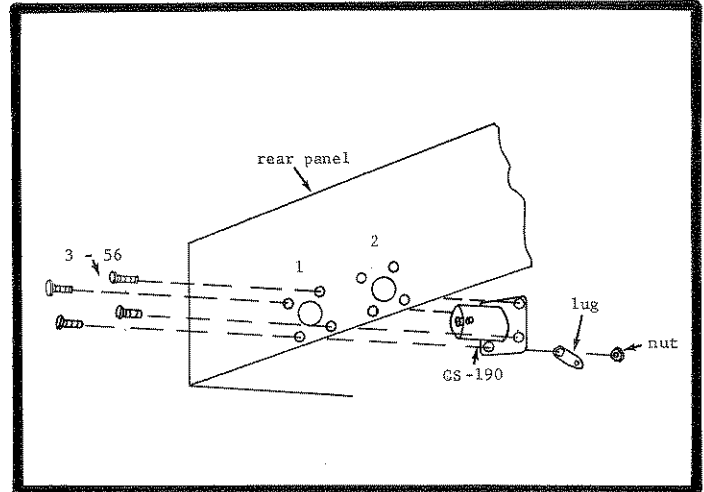

FIGURE 3. MHV Sockets Mounted to Model 246. The sockets, located in the rear panel, are used for remote programing.
a. Remove the plate over the punched holes on the Model 246 rear panel. These holes accept MHV connectors (No. UG-931/U, manufactured by most connector companies; Keithley part number CS-190). Mating connectors are UG-932/U (manufactured by most connector companies; Keithley part number CS-191). Use a lug to ground the shields of the cables to the Model 246 chassis as shown in Figure 3. Use 3-56 screws and nuts to fasten the connectors to the rear panel; if not available, 2-56 screws and nuts are sufficient. Relocate the ac wires at the inside rear panel so that the connectors can be installed.
1. Attach the center conductor of Cable #1 (end A) to the center pin of connector #2 (refer to Figure 3). Connect the shield of the cable to the ground lug.
a. Remove the plate over the punched holes on the Model 246 rear panel. These holes accept MHV connectors (No. UG-931/U, manufactured by most connector manufacturers; Keithley part number CS-190). Mating connectors are UG-932/U (manufactured by most connector manufacturers; Keithley part number CS-191). Use a lug to ground the shield of the cables to the Model 246 chassis as shown in Figure 3. Use 3-56 screws and nuts to fasten the connectors to the rear panel; if not available, 2-56 screws and nuts are sufficient. Relocate the ac wires at the inside rear panel so that the connectors can be installed.
1. Attach either end of cable #3, the 7-inch cable, to connector #2 (Figure 3).
2. Attach either end of cable #4, the 8-inch cable, to connector #1 (Figure 3).